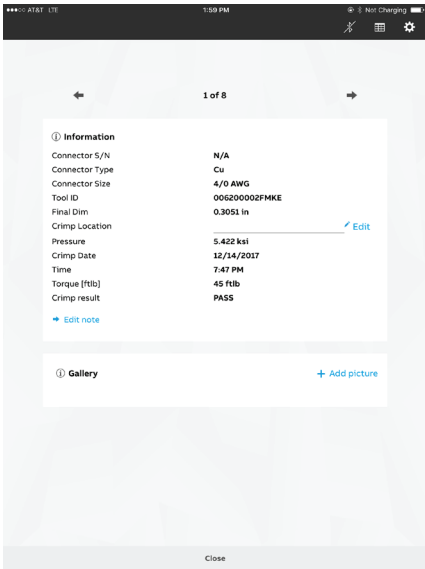

Figure 10
- Select **Close** to apply changes (Figure 10)